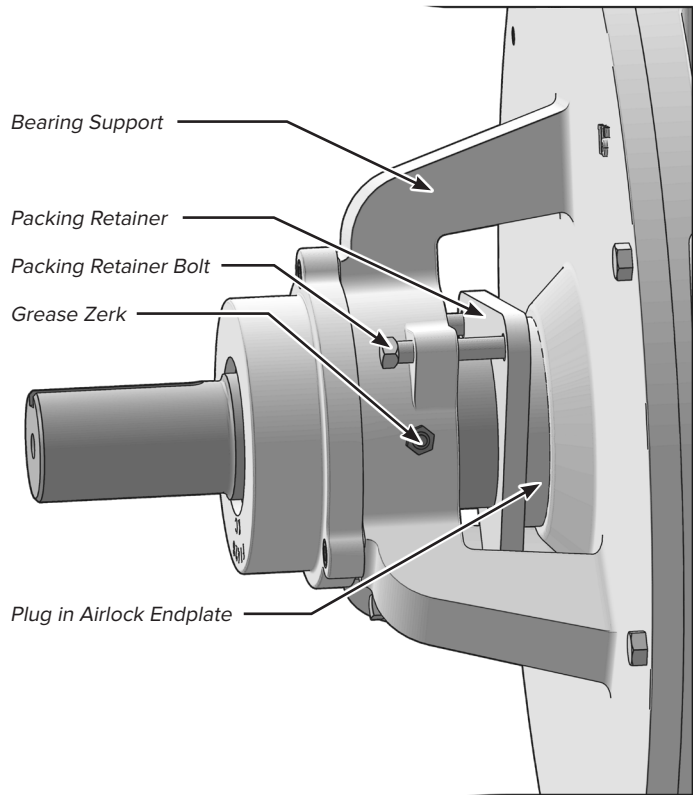

FIGURE 5.1
- a. Use an open-end wrench to tighten the packing retainer bolts (see Figure 5.1).
10. Some outboard bearing airlocks can benefit from the use of a pressurized air purge system or a continuous grease system. The tapped and plugged hole in both airlock endplates should be utilized for the air purge system (see Figure 5.1). This conversion can be accomplished by replacing the first (inner) ring of packing in both endplates with a lantern ring, removing the plug from each endplate, and attaching a compressed air line equipped with a pressure regulator to each tapped hole. To convert an airlock to a continuous grease system, remove the grease zerk located on both of the bearing supports and replace with a grease line (see Figure 5.1)